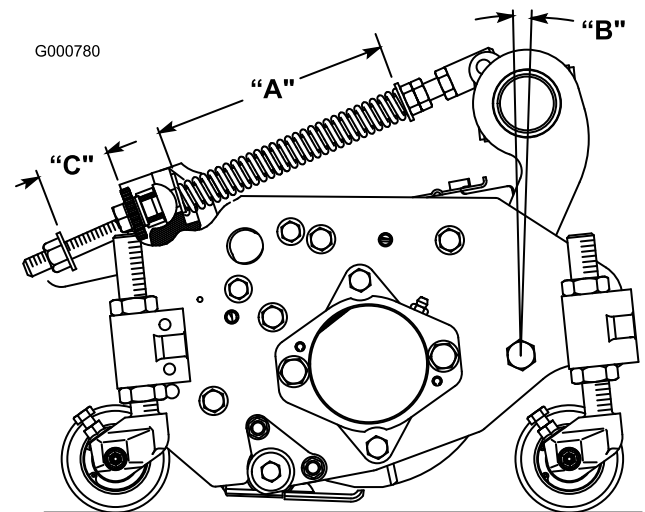

Figure 8
The Turf Compensation Spring (Figure 8), connecting carrier frame to cutting unit, controls the amount of fore-aft rotation available, as well as the amount of ground clearance in transport and turn around.
1. Tighten lock nut on rear of spring rod until the gap (C) between rear of spring bracket and front of washer is 1 in. (25 mm) (Figure 8).
2. Tighten hex nuts on front end of spring rod until the compressed length (A) of spring is 8 in. (203 mm) (Figure 8).
Note: When cutting rough or undulating turf, increase compressed length (A) of spring to 8-1/2 in. (216 mm) and gap (C) between rear of spring bracket and front of washer to 1-1/2 in. (38 mm) (Figure 8).